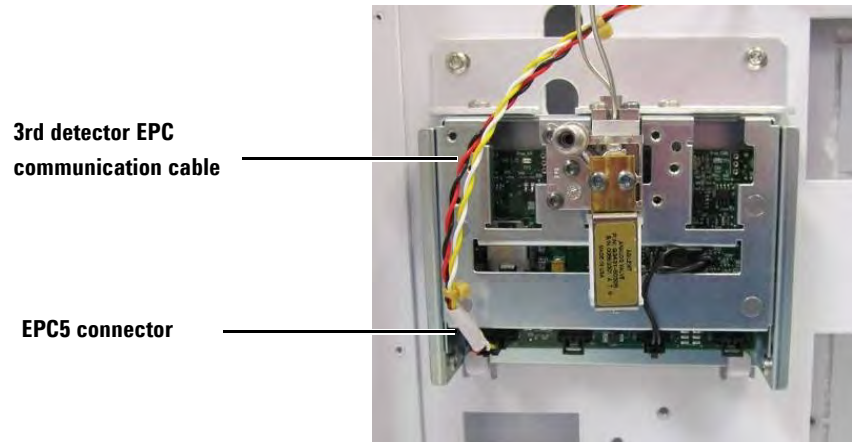

Figure 23 Connect the EPC5 connector
- 7 Connect the EPC module to the μ ECD EPC board P5 using the third detector EPC communication cable as shown in Figure 23.